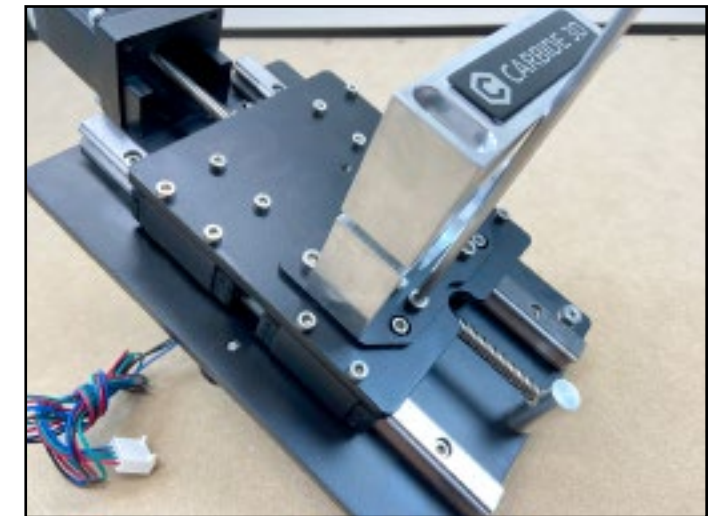

Figure 3-12
1. Set the tramming plate onto the front of the Z-Plus and align the four (4) mounting holes with the four (4) available M5 screw holes.
2. Use the 4mm hex key and four (4) M5x8mm socket head cap screws to secure the plate to the Z-Plus. See **Figure 3-12**.